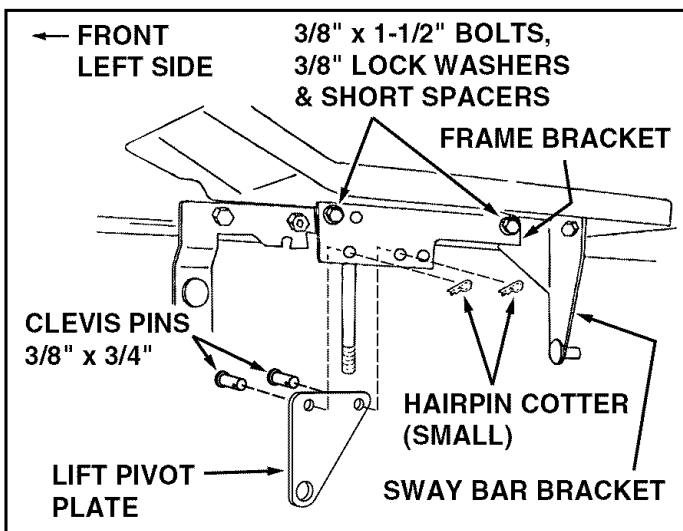

FIGURE 15
- Assemble a frame bracket to the outside of the tractor frame under the left foot rest. Use two 3/8" x 1-1/2" hex bolts, two 3/8" lock washers and four short spacers. Use two spacers on each bolt, between the frame bracket and the tractor frame. Use only one spacer on the rear bolt if it goes through a sway bar bracket. See figure 15.
- Assemble the lift pivot plate to the inside of the frame bracket using two 3/8" x 3/4" clevis pins and two small hairpin cotters. See figure 15.